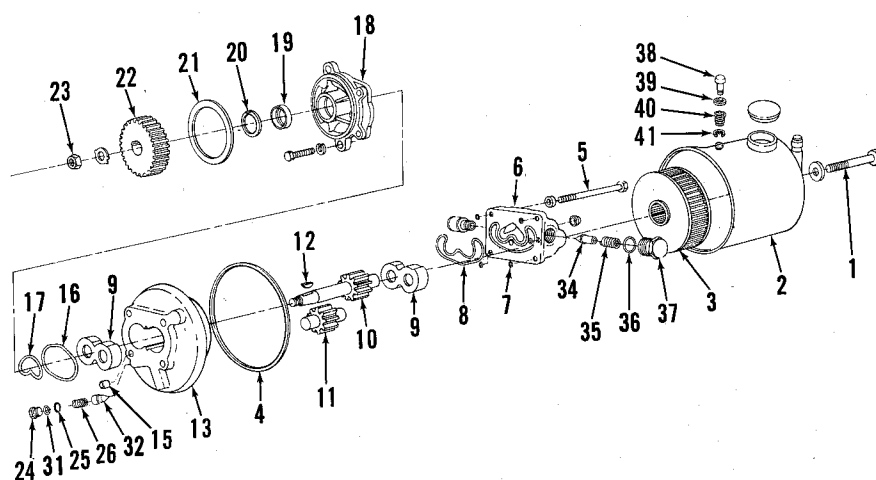

Fig. 41—Exploded view of power steering pump used in Models 8700, 9700, TW10, TW20 and TW30.
34. FLUID AND BLEEDING. Use Ford M-2C41A fluid in this system. Fluid level should be kept at bottom of reservoir filler neck. System capacity is 7.8 US pints. Reservoir (2—Fig. 41) should be disassembled for cleaning and new filter (3) installed after each 600 hours of operation.
36. R&R AND OVERHAUL PUMP. For exploded view of pump refer to Fig. 41. Clean pump and surrounding area and disconnect pump pressure and return lines. Remove two cap screws securing pump to engine front cover and lift off pump and reservoir as a unit.